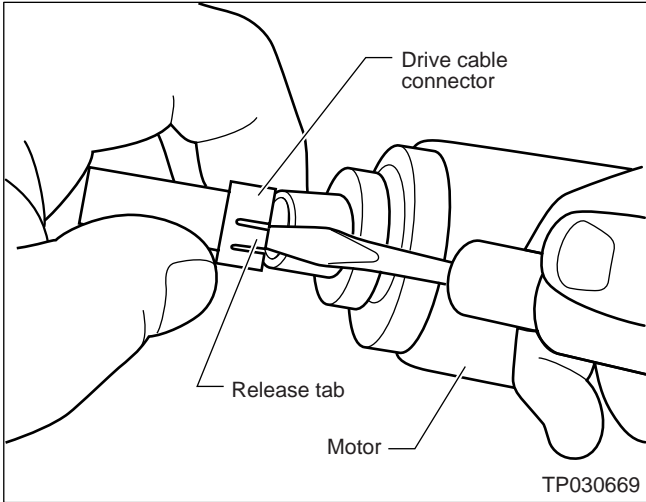

Figure 8
17. Remove the drive cable from the gear boxes. To release the drive cable from the motor end, pull up on the tab using a small flat blade screwdriver or equivalent (see Figure 8).